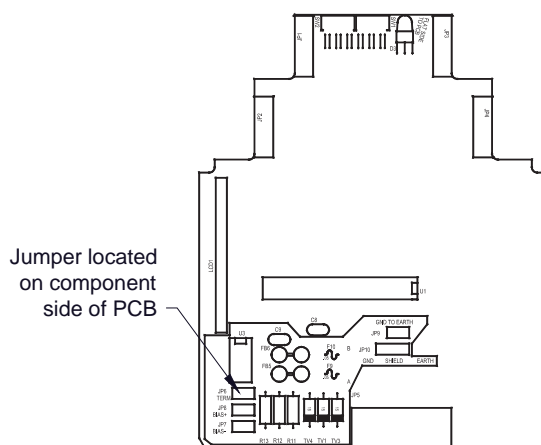

Figure 15 I/O Module Termination jumper (JP6)
- ❖ When I/O Modules are located at a remote distance from the controller, an end-of-line terminating resistor is required to enhance communications reliability. Identify the last I/O Module in the loop, and open the module casing using the clip release points. Locate and install the jumper on JP6 (TERM) Figure 15. This adds a 120Ω resistor to the end of the line. If applicable, add a 120Ω resistor to the last Modbus™ gas sensor.